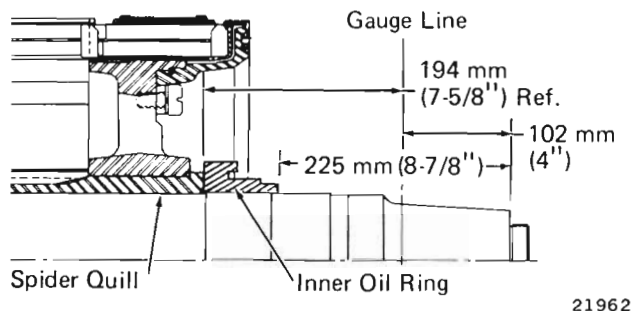

Fig. 12 - Pinion End Inner Oil Ring Assembly
1. Check the pinion end dimension from the end of the shaft to the armature spider quill, Fig. 12.
ring to the shaft and allow to cool to room temperature, Fig. 12.